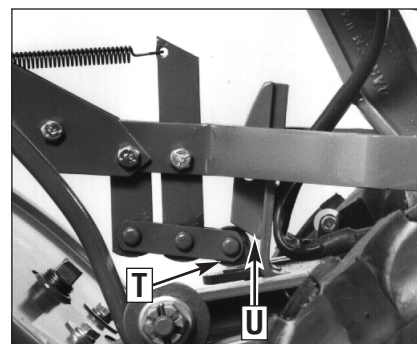
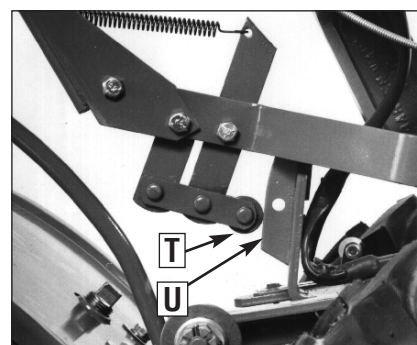

Figure 2-10: Forward position; roller (T) rests under the adjustment block (U).
Figure 2-11: Neutral position; roller (T) rests against middle area of the adjustment block (U).
7. Test the operation of the Wheels/Tines/PTO Lever. Push the lever down until it engages in the Forward position. The clutch roller (T, Figure 2-10) must rest beneath the adjustment block (U). Next, move the lever up to the Neutral position. The clutch roller (T, Figure 2-11) should rest on the face of the adjustment block (U). To test Reverse, lift and hold the lever all the way up in Reverse position, then let it go. The lever should automatically return to the Neutral position (Figure 2-11). If not, do not use the tiller. See your local authorized dealer or call the Factory Technical Service Department for instructions.